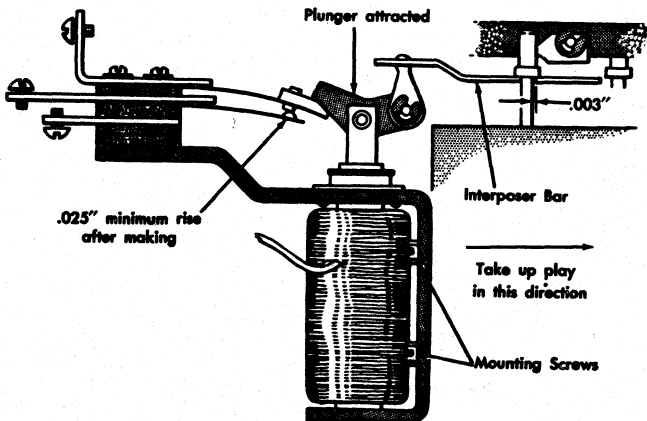

Figure 61. Last Column Notch Solenoid
2. Take up play in linkage of interposer bar toward front of machine and position magnet bracket vertically for .003-inch clearance between error punch and interposer bar (Figure 61).